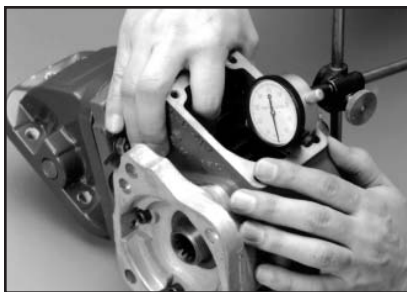

Fig. 8
8. Set the proper backlash between the adapter and PTO. After backlash is set remove PTO from adapter and set aside PTO and gaskets. See page 9 for setting proper backlash (**Fig. 8**).